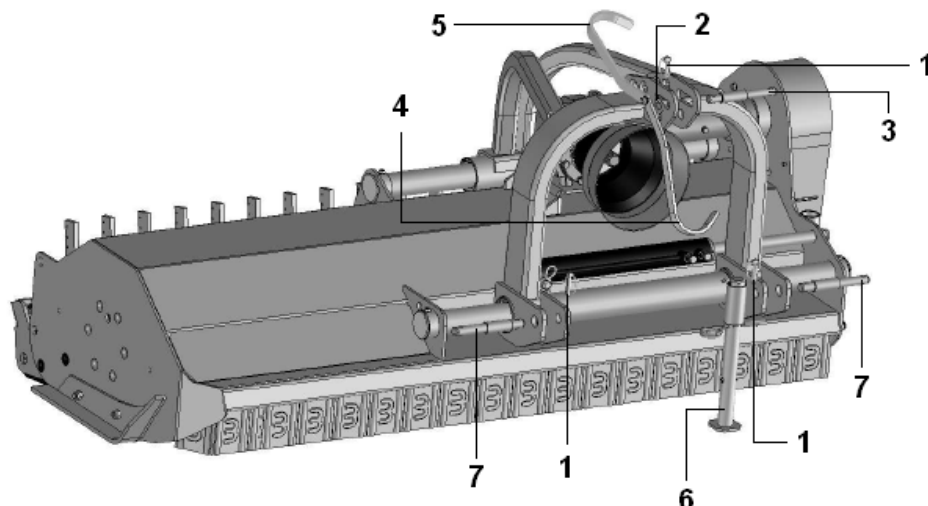

Figure 11
1. Remove the safety pins (1), remove the washer (2) and the plug (3) (figure 11);
4. Insert the pegs (3 and 7) and the relative safety pins (1) (figure 11);
5. Connect the third point (tensioner) of the machine to the tractor, insert the provided pin (3), the washer (2) and the relative safety pin (1); adjust the length of the third point as to make sure that the pin is placed in the centre of the slot;
6. Lift the mulcher until the machine and tractor power points are taken to the same height and register the tensioner, taking the mulcher to a horizontal position; lift the support foot (6);
10. Rotate the sustaining bracket of the cardan from position (4) to position (5) (figure 11);